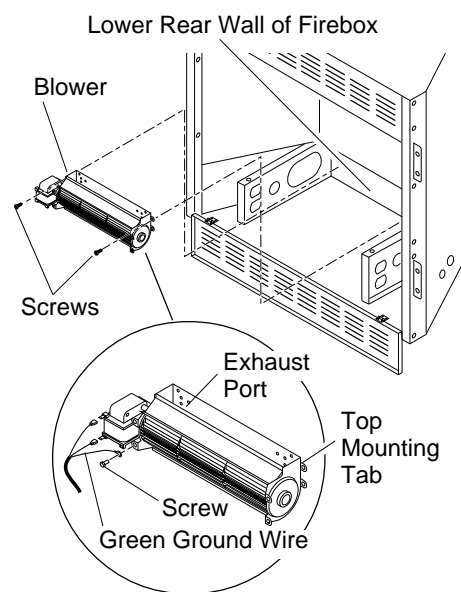

Figure 14 - Mounting Blower to Firebox
15. For thin walls (1/2" or less), insert red key into wall anchor. Push red key to "pop" open anchor wings. See Figure 14. **IMPORTANT:** Do not hammer key! For thick walls (over 1/2" thick), do not pop open wings.
3. Attach green ground wire from power cord to blower housing using screw provided (see Figure 14). Tighten screws securely.
4. Place the blower against lower rear wall of firebox outer wrapper with the exhaust port directed upward. Align the holes in top mounting tabs of blower with holes in wall of wrapper (see Figure 14). Using 2 screws provided, mount blower and tighten screws securely.